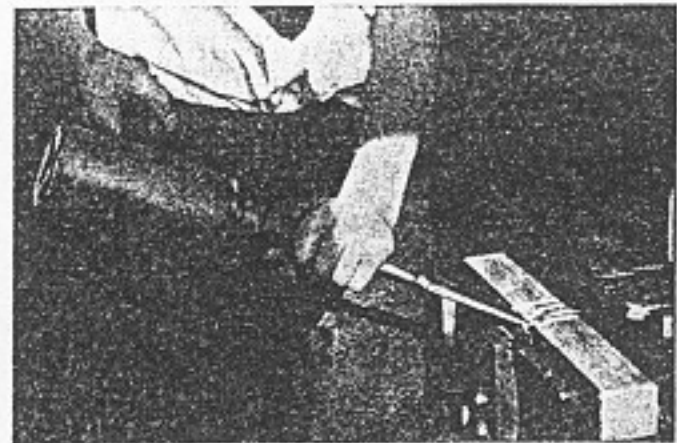

Fig. 200. Chiseling middle- or cross-lap joint, bevel down. Roughing cut.
5. The waste material is chiseled away. The chisel is held with the bevel down, and chiseling is begun well above the gauge lines. Chiseling is done from both sides to avoid splitting the wood at the edges (Fig. 200). The extra saw cuts will serve as a depth gauge for the chisel